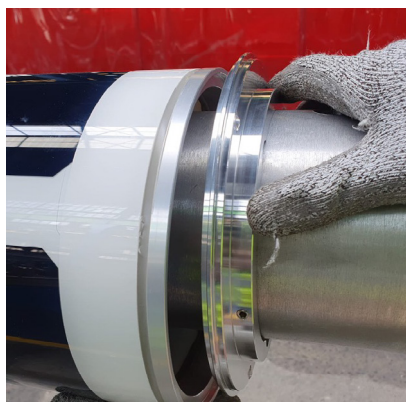

Fig. 8-8: Orient Middle Adapter Ring with Set Screws and Bumpers Facing Top of Pole
8. If only installing one solar module, proceed to Section 10 step 7. Otherwise, slide the middle adapter ring onto the pole. Orient so that the set screws and plastic bumpers face the top of the pole (refer to Figure 8-8).
7. Slide the second middle adapter ring onto the pole. Orient so that the set screws and plastic bumpers face the top of the pole (refer to Figure 8-8).